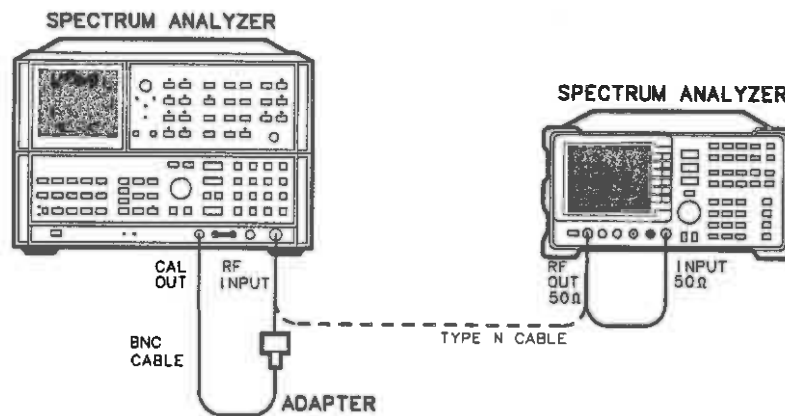

Figure 3-32. LO Feedthrough Amplitude Test Setup
1. Connect the Type N cable between the spectrum analyzer's RF OUT 50 $\Omega$  and INPUT 50 $\Omega$  connectors. See Figure 3-32.
7. Connect the Type N cable from the tracking generator RF OUT 50 $\Omega$  to the HP 8566A/B RF INPUT. See Figure 3-32.